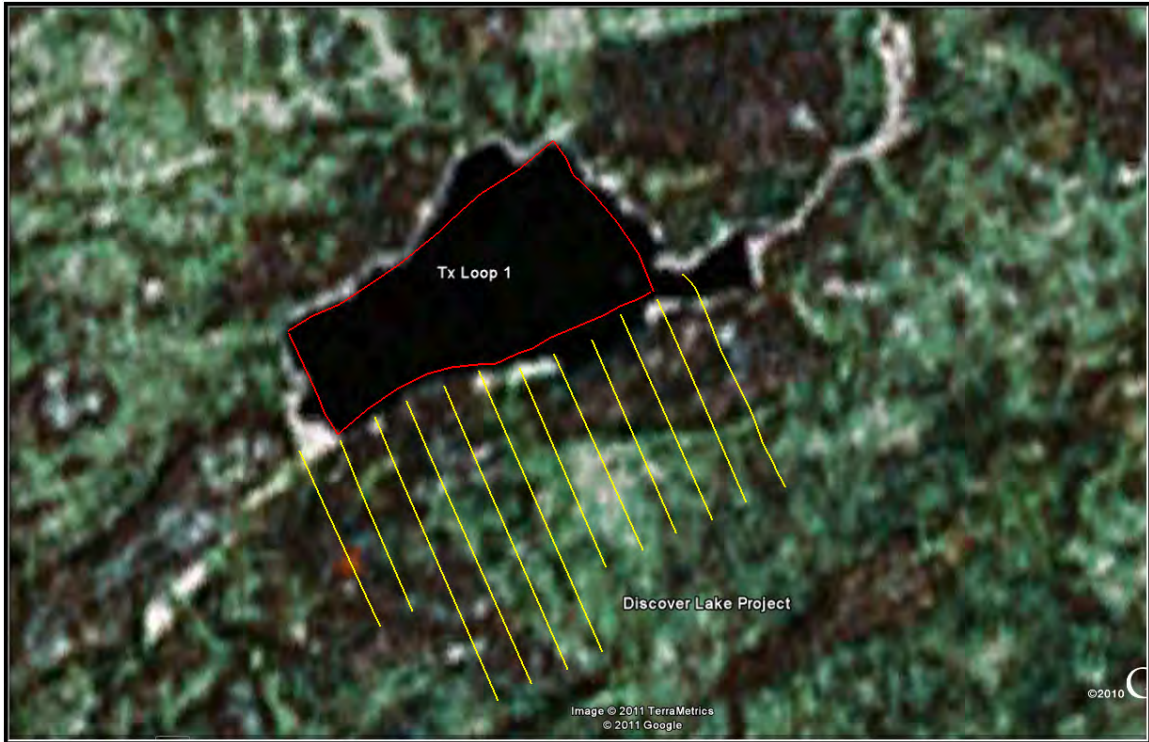

Figure 5: Tx Loop 1 and TDEM Survey Line location Map
- FIGURE 5: TX LOOP 1 AND TDEM SURVEY LINE LOCATION MAP